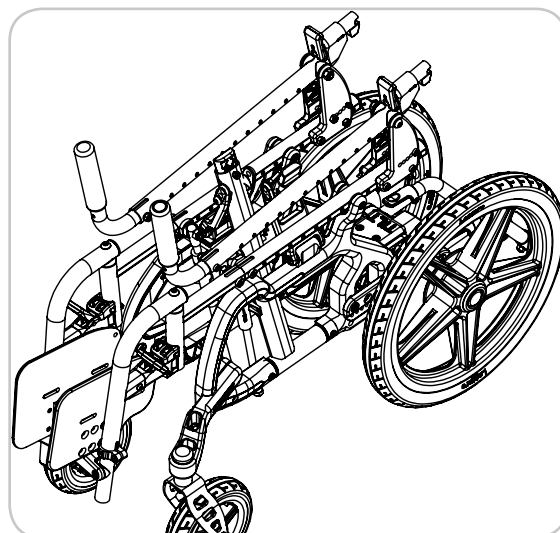

Figure 10
8. Collapse frame. Reference Figure 10.